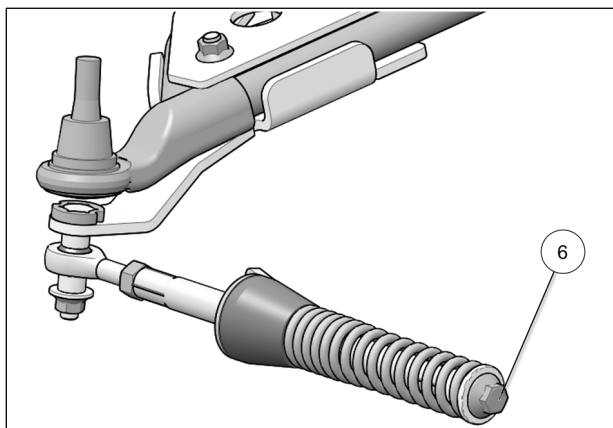

Fig. 19
- Verify that spring assembly bolt (6) is tightened to the recommended torque specification: 75 N•m [55 lb•ft]. Refer to Fig. 19
9. Vérifier que le boulon du ressort (6) est serré au couple recommandé : 75 N•m [55 lb•pi]. Fig. 19